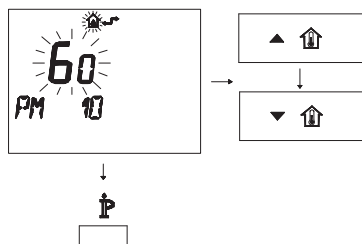

Fig. 7.39
- To modify the programmed SET, act on buttons **▲** or **▼** and wait for the number programmed to flash (Fig. 7.39).